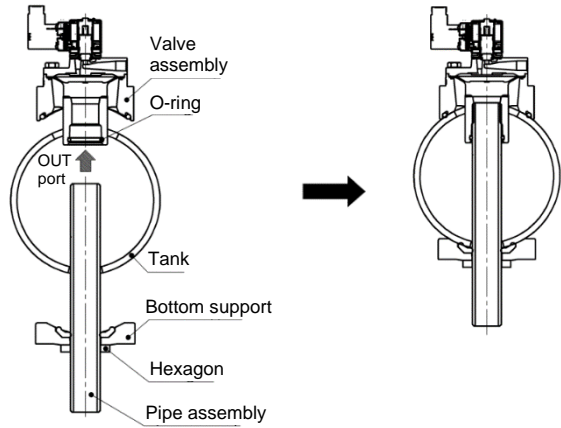

Fig.3
- The valve and pipe assembly are mounted to the tank, see Fig.3.